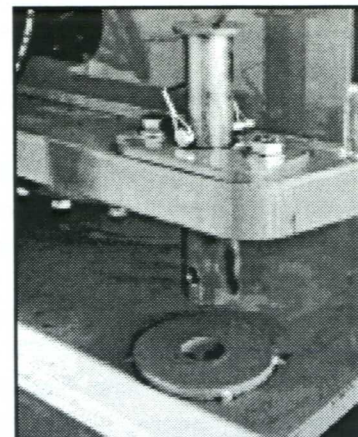

Figure 2-1: Locking bolt
3. Retract locking bolt. See figure 2-1.